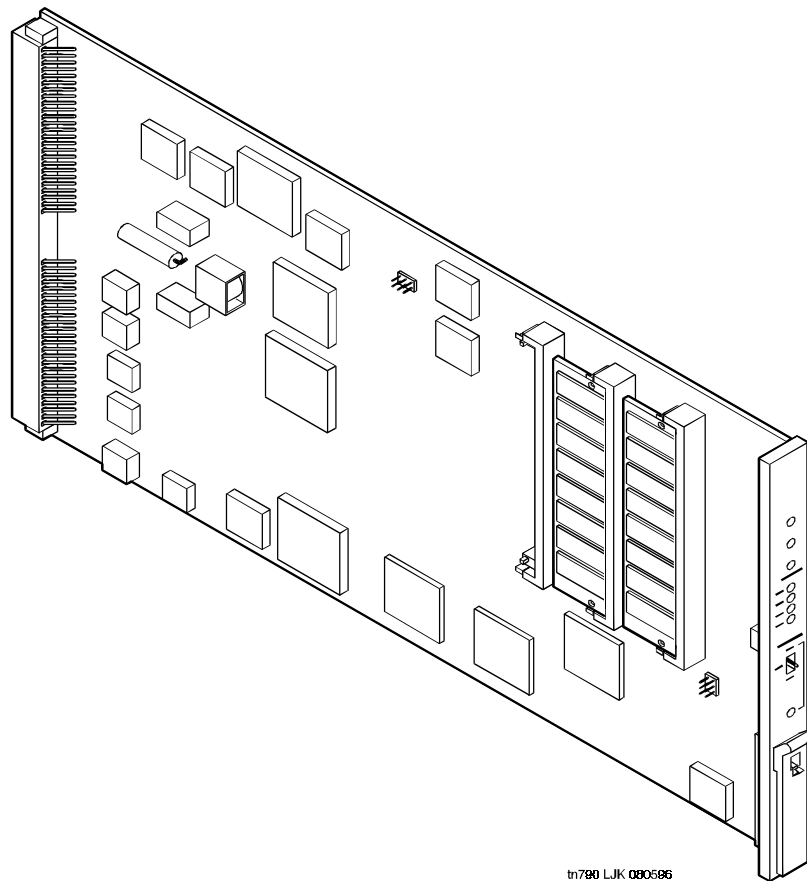

Figure 4-2. TN790 Processor Circuit Pack
3. See previous WARNING. Install the TN790 processor circuit pack into the control-cabinet slots labeled "PROCR" and "MEM". See Figure 4-2 for an illustration of the TN790 processor circuit pack.